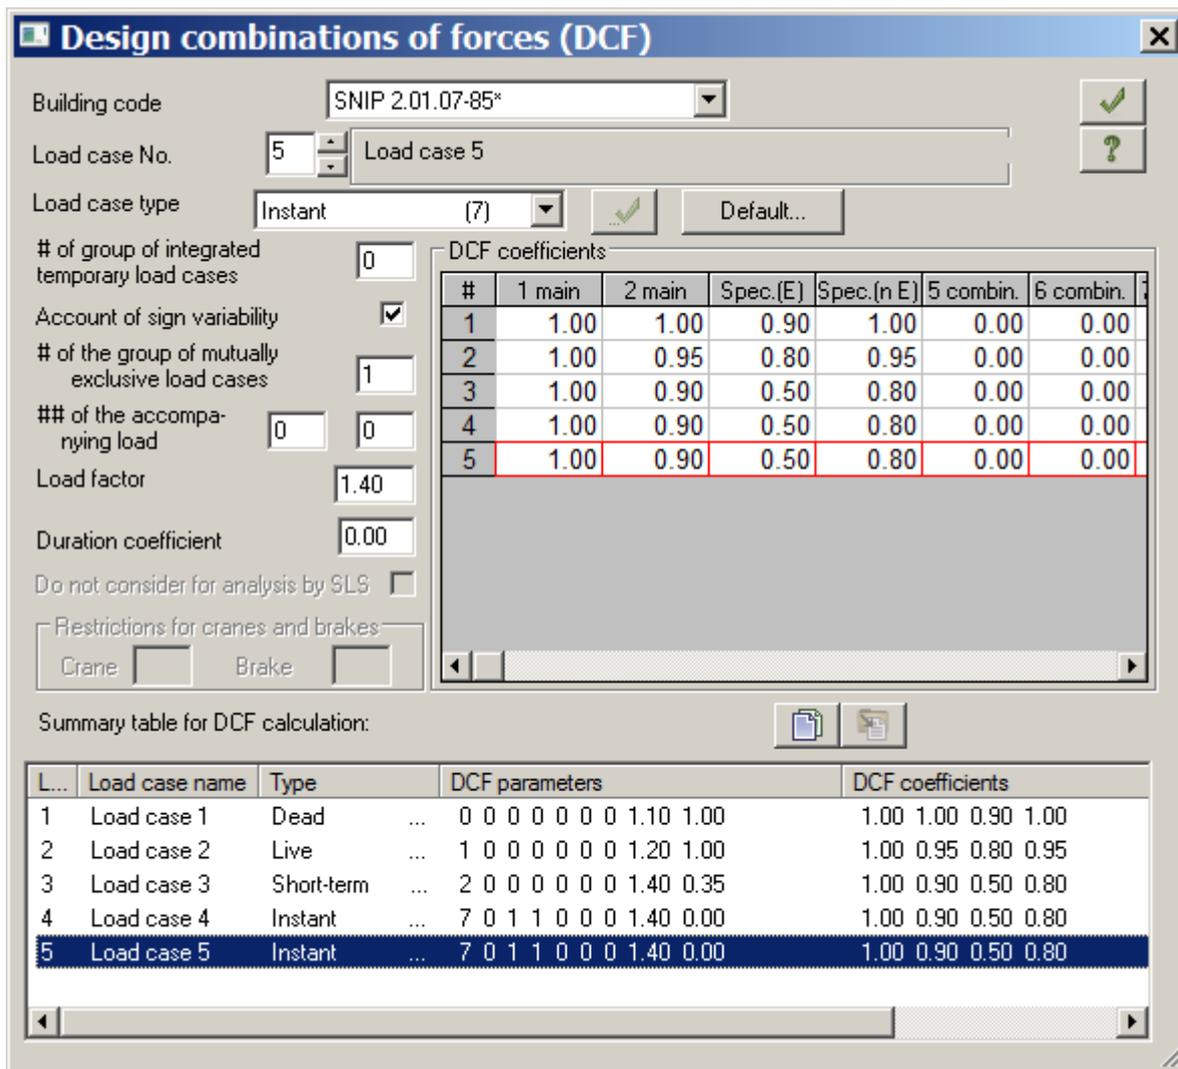

Figure 21.21 Design combinations of forces dialog box
As the type of load cases was defined in the **Edit load cases** dialog box (see Fig.21.21), the DCF table is generated automatically with parameters accepted by default for every load case. Now you have to modify parameters for the third, the fourth and the fifth load cases.
- ⇒ In the **Design combinations of forces** dialog box (see Fig.21.21), select building code **SNIP 2.01.07-85*** and specify the following data: